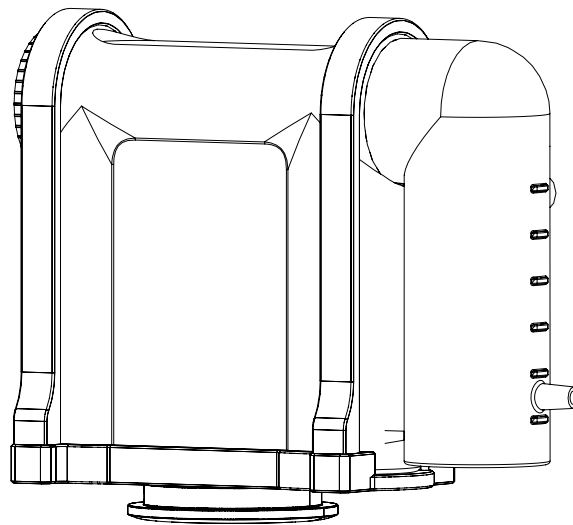

Figure 5: Suction unit installed in the Bracket Pro Serie 77 - FL
6. Lift the suction unit up on its feet. The Laerdal Compact Suction Unit 4 is ready for transport (Figure 5).